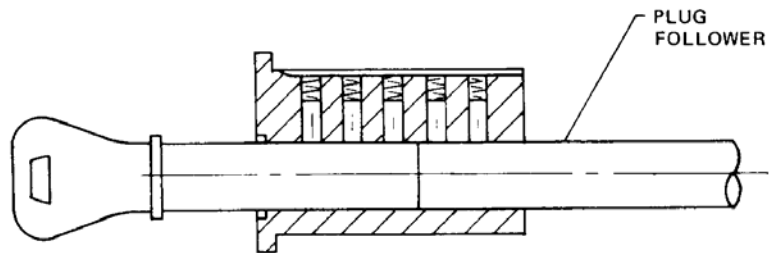

Fig 5
2. A plug follower as illustrated in Figure 5. This can be either purchased from a locksmith supply house, or simply made from a short length of 1/2 inch diameter wooden dowel.
Take the cylinder apart by removing the two retaining screws and retaining plate. If the cylinder has a key, insert it into the keyway, thus raising all the pins to their shear line. See the illustration in Figure 4. The plug may now be turned. With the retainer removed, the plug can also be pulled out of the shell. Here is where your plug follower is used. Without it you would have pins and springs flying in all directions. As you pull the plug out from the front, follow it with the plug follower from the rear as illustrated in Figure 5. You will note that the bottom pins have remained with the plug while the top pins and springs remain in the shell, retained by the plug follower. By carefully removing the plug follower, you can remove the top pins and springs one at a time from the shell. Go slowly here, for this is the perfect time to have a spring go flying into space, never to be seen again. If some of the top pins are preceded by a rather short pin, then your cylinder was master keyed. These master pins, if present, can be discarded at this time.